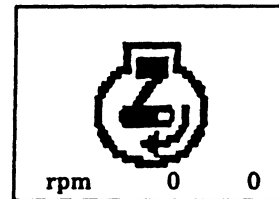

Fig. 3 Displaying the engine revolution when the engine is at rest
- 3) Depress the buzzer stop switch by turns. An engine revolution will be indicated at the 23rd out of 24 pressings. (Fig. 3.)